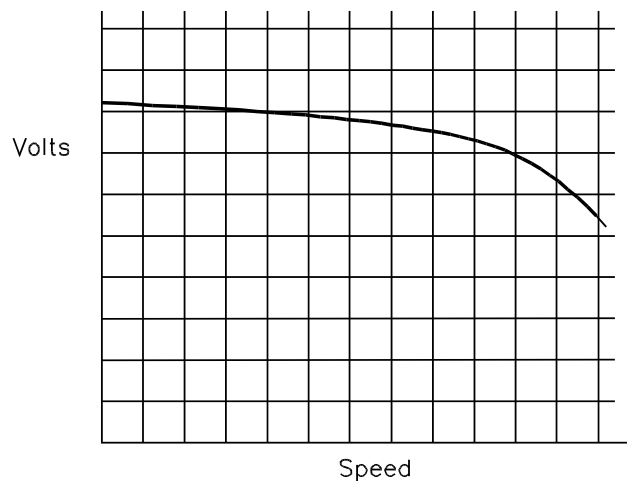

Figure 63
59. Figure 63 shows the Voltage/Excitation graph of a self-excited generator.